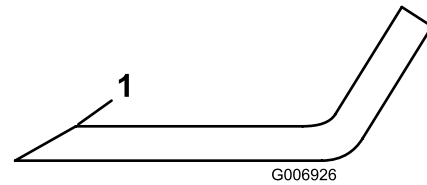

Figure 76
4. Inspect the cutting edges of all blades. If they are dull or nicked, sharpen the top of the cutting edge and maintain the original cutting angle to ensure sharpness (Figure 76).